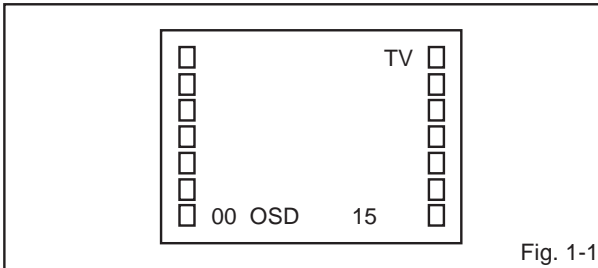

Fig. 1-1
Press the VOL. DOWN button on the set and the Channel button (9) on the remote control for more than 1 second to appear the adjustment mode on the screen as shown in Fig. 1-1.
3. Activate the adjustment mode display of Fig. 1-1 and press the channel button (02) on the remote control to select "RF. AGC".
3. Activate the adjustment mode display of Fig. 1-1 and press the channel button (01) on the remote control to select "CUT OFF".
4. Activate the adjustment mode display of Fig. 1-1 and press the channel button (13) on the remote control to select "R. BIAS".
3. Activate the adjustment mode display of Fig. 1-1 and press the channel button (04) on the remote control to select "H. POSI".
3. Activate the adjustment mode display of **Fig. 1-1** and press the channel button **(06)** on the remote control to select "H. SIZE".
2. Activate the adjustment mode display of **Fig. 1-1** and press the channel button **(05)** on the remote control to select "V. POSI".
2. Activate the adjustment mode display of **Fig. 1-1** and press the channel button **(07)** on the remote control to select "V. SIZE".
3. Activate the adjustment mode display of **Fig. 1-1** and press the channel button **(23)** on the remote control to select "PARABOLA".
3. Activate the adjustment mode display of **Fig. 1-1** and press the channel button **(24)** on the remote control to select "TRAPEZIU".
3. Activate the adjustment mode display of **Fig. 1-1** and press the channel button **(25)** on the remote control to select "COR TOP".
3. Activate the adjustment mode display of **Fig. 1-1** and press the channel button **(26)** on the remote control to select "COR BTM".
1. Activate the adjustment mode display of **Fig. 1-1**.